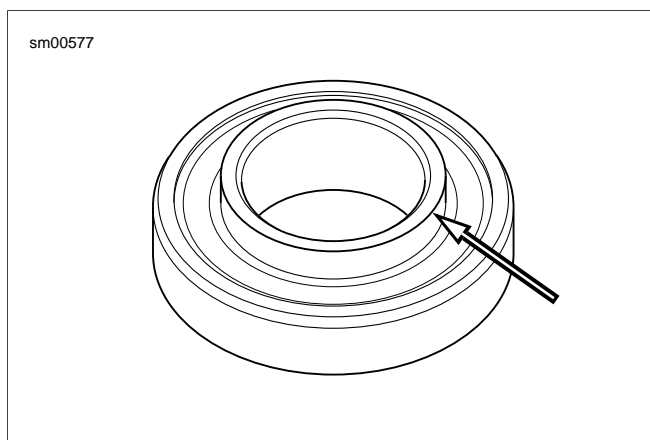

Figure 2-106. Steering Head Bearing Lip
- a. See Figure 2-106. Place the upper bearing squarely in the steering stem bore with the inner race lip pointing away from the steering head.